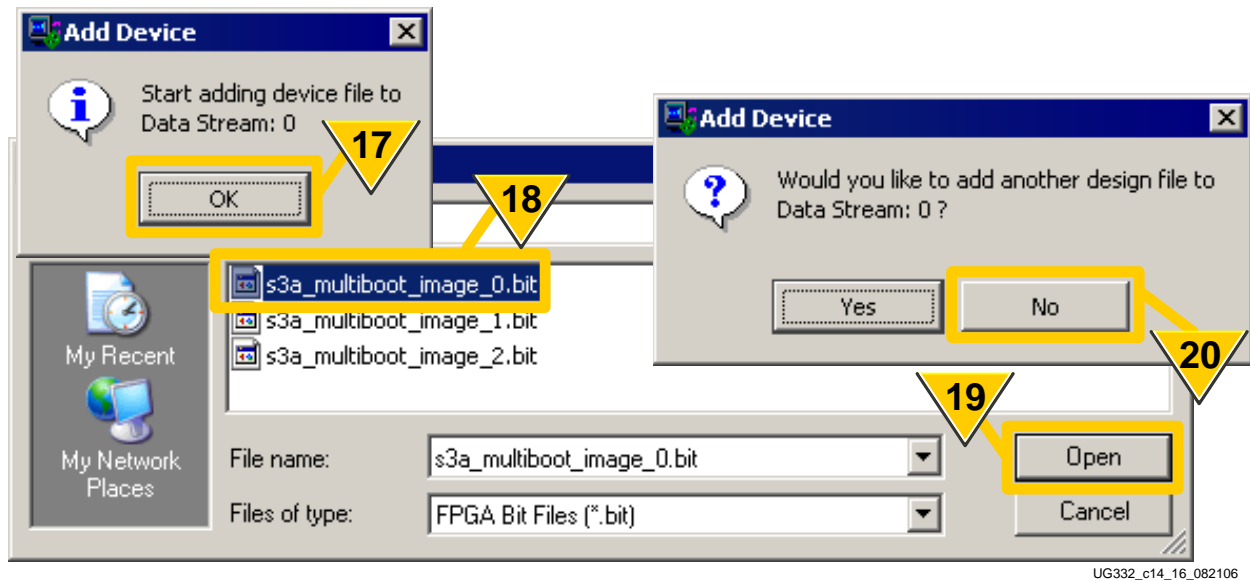

Figure 14-17: Select the First (Default) Configuration Image
17. As shown in Figure 14-17, add the initial FPGA bitstream. This is the design that is loaded into the FPGA at power-up, or whenever the PROG_B pin is pulsed Low. This is also the default bitstream that is automatically loaded if the Configuration Watchdog Timer (CWDT) expires during a MultiBoot operation.